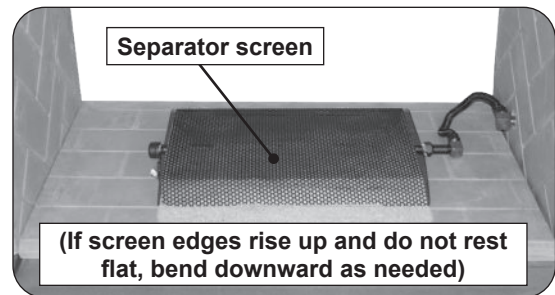
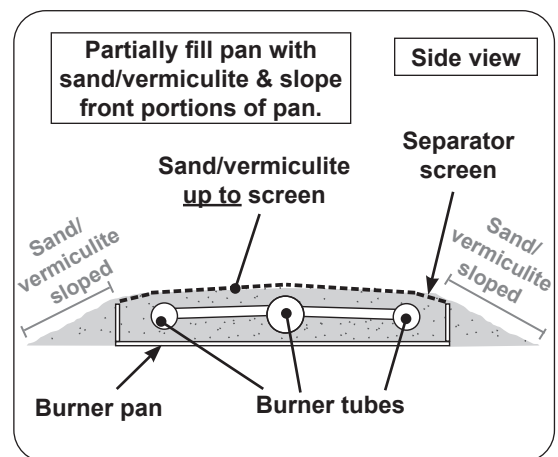

Fig. 12-2 Place screen
Fig. 12-3 Sand/vermiculite & screen detail
- Slope the sand/vermiculite in the front portions of the pan (see Fig. 12-3).
2. Place the separator screen over the sand/vermiculite and pan. The screen edges will rest just over the edges of the burner pan as shown in Fig. 12-2 and Fig. 12-3. If the screen edges rise up from the floor of the pan, bend them downward as needed.
3. Once the screen is in place add or remove sand/vermiculite until it rests at the level right below the screen (see Fig. 12-3). **DO NOT** underfill or overfill.